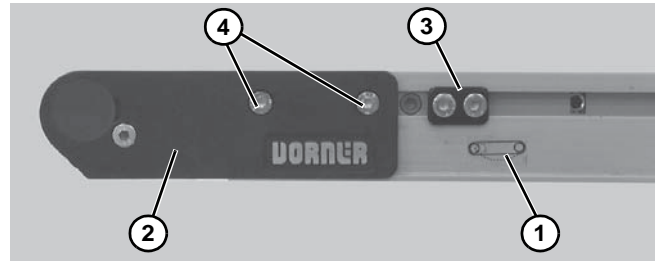

Figure 26
4. On tension end of the conveyor, identified with a  label (Figure 26, item 1), push in head plate assembly (Figure 26, item 2): On both sides of conveyor, loosen and move cam tracking assemblies (Figure 26, item 3) (if equipped) away from head plates, then loosen fastening screws (Figure 26, item 4) and push head plate assembly inward.